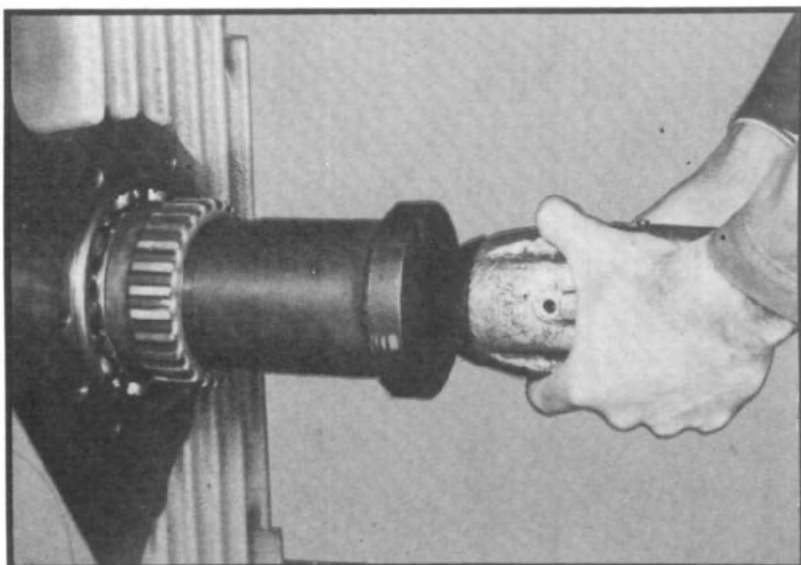

Fig. 71
3.19 Remove special nut from inside of clutch gear with special wrench (See tool reference, Section X and fig. 71.) and remove clutch gear from lower shaft.